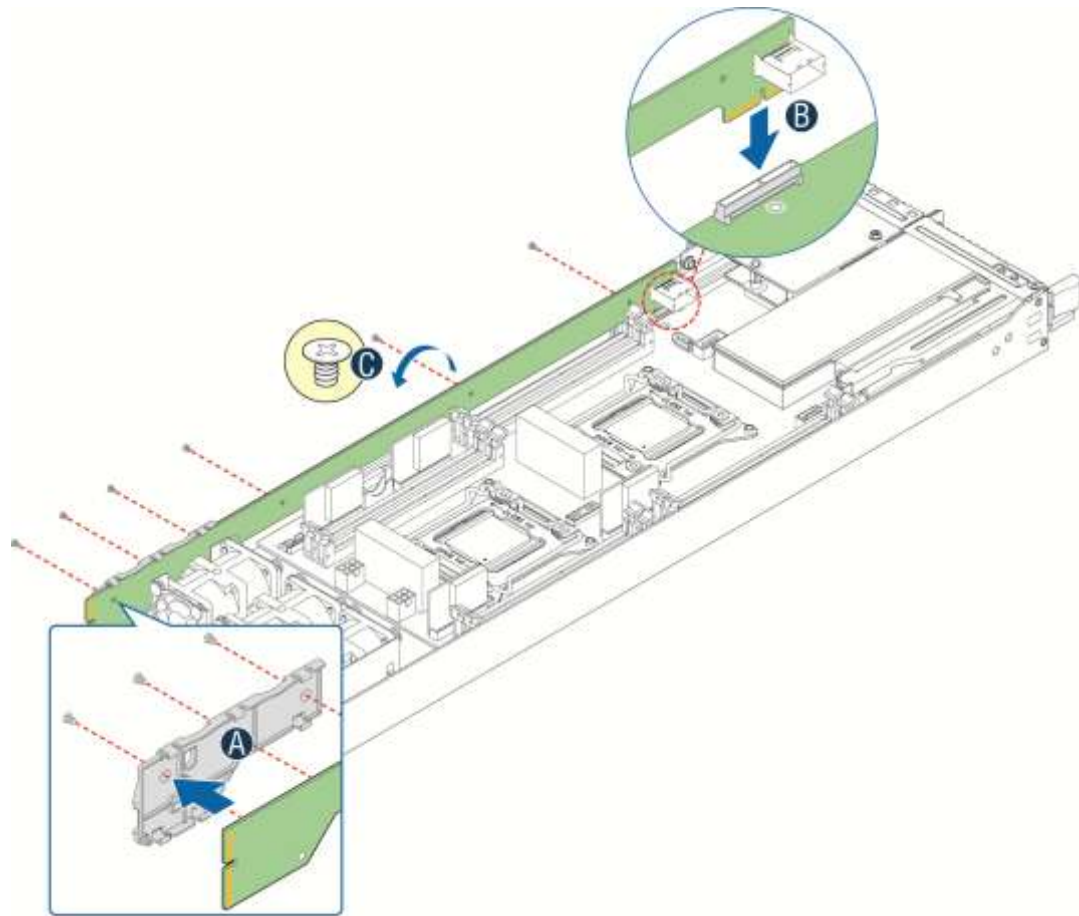

Figure 59. Installing Spare Bridge Board
2. Plug in the card edge of spare bridge board to bridge slot, see letter **B** of Figure 59.